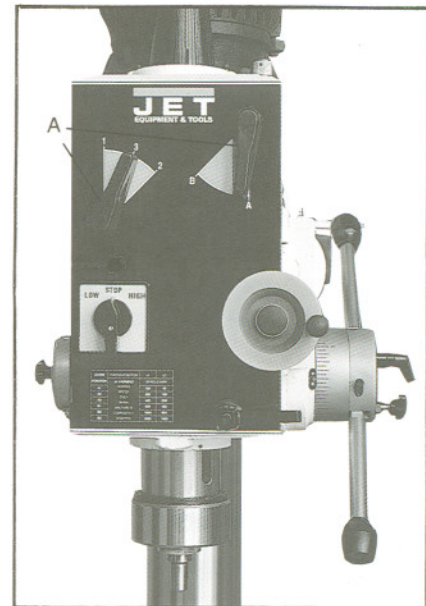

Fig. 13
2. Adjust the levers (A, Fig. 13) to the desired speed as indicated by the speed chart. Turning the spindle by hand will help the gear teeth mesh.